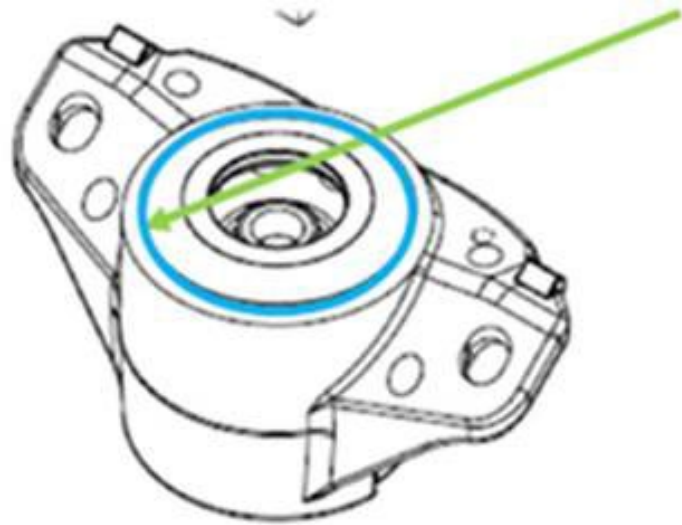

Figure 1. Apply the Krytox to the area marked in blue
- Apply 5ml Krytox in marked area in blue (Figure 1).